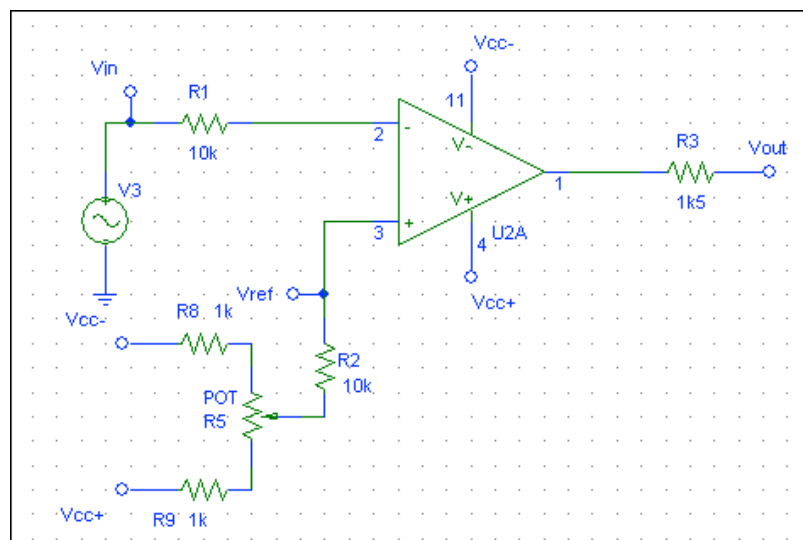

Fig. 5 Nonregenerative amplitude discriminator
1. Solder circuit illustrated in fig. 5.